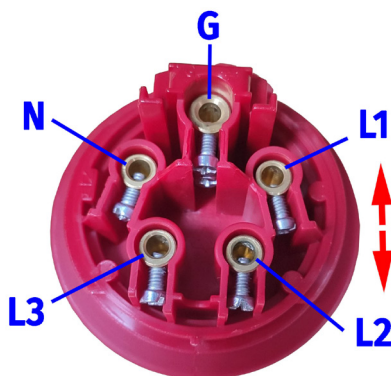

Figure 27
- 1.1. In case of incorrect phase alignment in the socket, swap the L1 and L2 phases, as shown in Fig. 27.